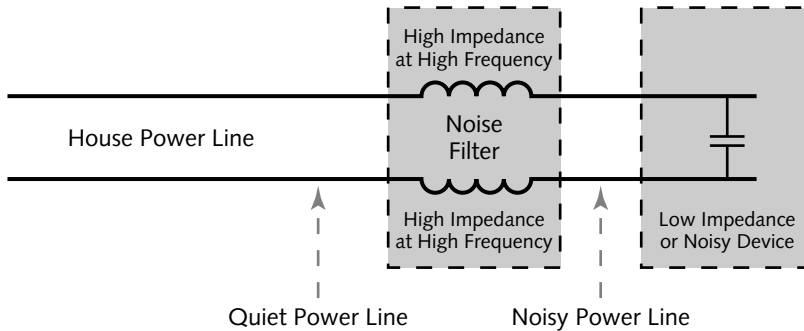

FIGURE 1-7: X-10 filtering
Signal attenuation comes from other sources, too, because many types of devices on the power line will themselves attenuate the X-10 signal. Relatively small capacitances in power supplies and other electronic circuits look like high impedances to the normal 60 Hz power waveform, but may look like a low impedance to the 120 kHz signal and therefore reduce its strength considerably. The effects of each such small loss add together, too, so while no one computer, television, or other device may be enough to make your system unreliable, a large enough number of them may. You need a *filter* to fix this problem. Filters work as shown in Figure 1-7. Coils are the dual of capacitors, in that their impedance goes up with higher frequency, while a capacitor's impedance goes down. Putting a small inductance coil in series with each wire in
the power line lets the power flow without hindrance, but blocks noise and the 120 kHz signal. The filter blocks any X-10 signal present on the power line on the left in Figure 1-7, keeping that signal from being attenuated by the low impedance capacitance in the device on the right.
- **Noise Filter**— A simple noise filter works along the lines of Figure 1-7, keeping power line noise from crossing the filter in either direction. You can use one to isolate a noise source from the rest of your system, or to isolate a malfunctioning device from high levels of noise on your overall system. Some noise filters allow signals at the X-10 120 kHz frequency through, but block nearby frequencies, while full-spectrum filters block frequencies above the power line 60 Hz.